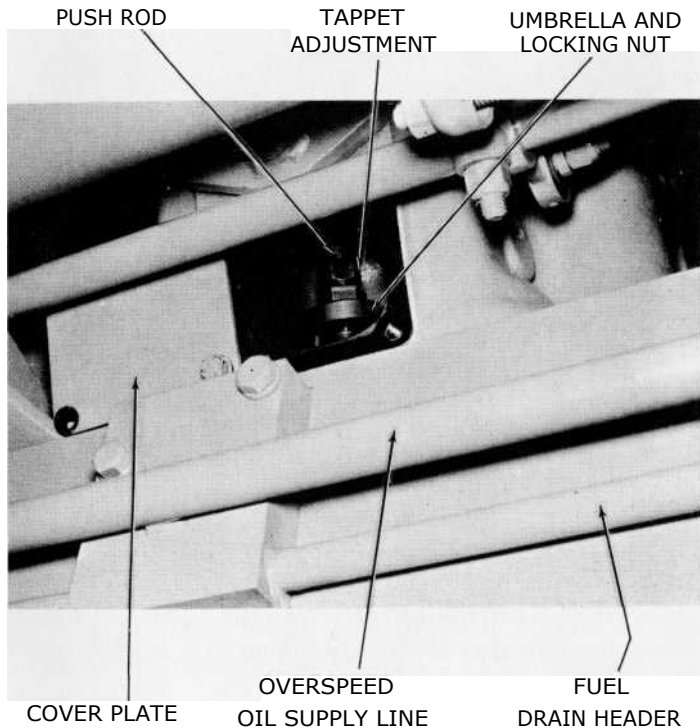

Fig. 5-4. Fuel-injection pump tappet-rod adjustment
CAUTION: BEFORE INSTALLING PUMPS ON THE ENGINE, SHORTEN THE TAPPET ROD LENGTH. REMOVE THE COVER AT THE BOTTOM OF THE CYLINDER. (SEE FIG. 5-4.) LOOSEN THE LOCKNUT AND TAPPET NUT, USING TWO OPEN-END WRENCHES. TURN THE TAPPET ADJUSTING NUT AND LOCKING NUT FOUR OR FIVE TURNS CLOCKWISE. EXCESSIVE TAPPET ROD TRAVEL CAN DAMAGE THE PUMP AND TAPPET ROD ASSEMBLY.
3. Remove the covers that are over the tappet-rod adjusting nuts. (See Fig. 5-4.)